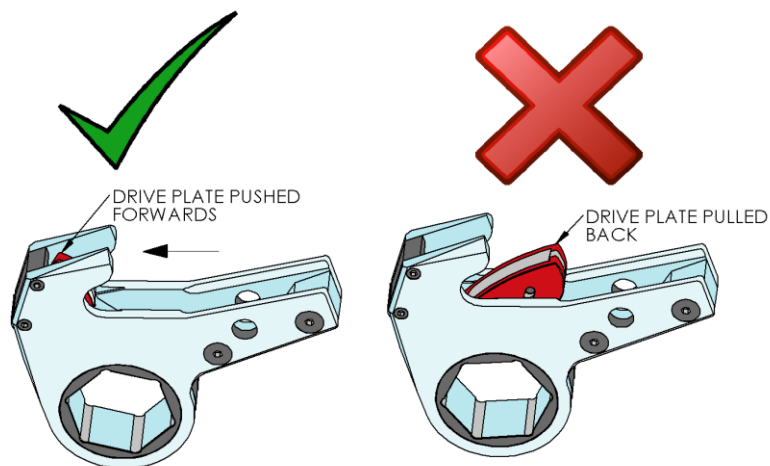

Fig 2: Drive plate positioning
5. Ensure that the drive plate in the ratchet head is pushed fully forwards – **see Fig 2.** Failure to do this can result in severe damage to the ratchet head and drive cylinder.